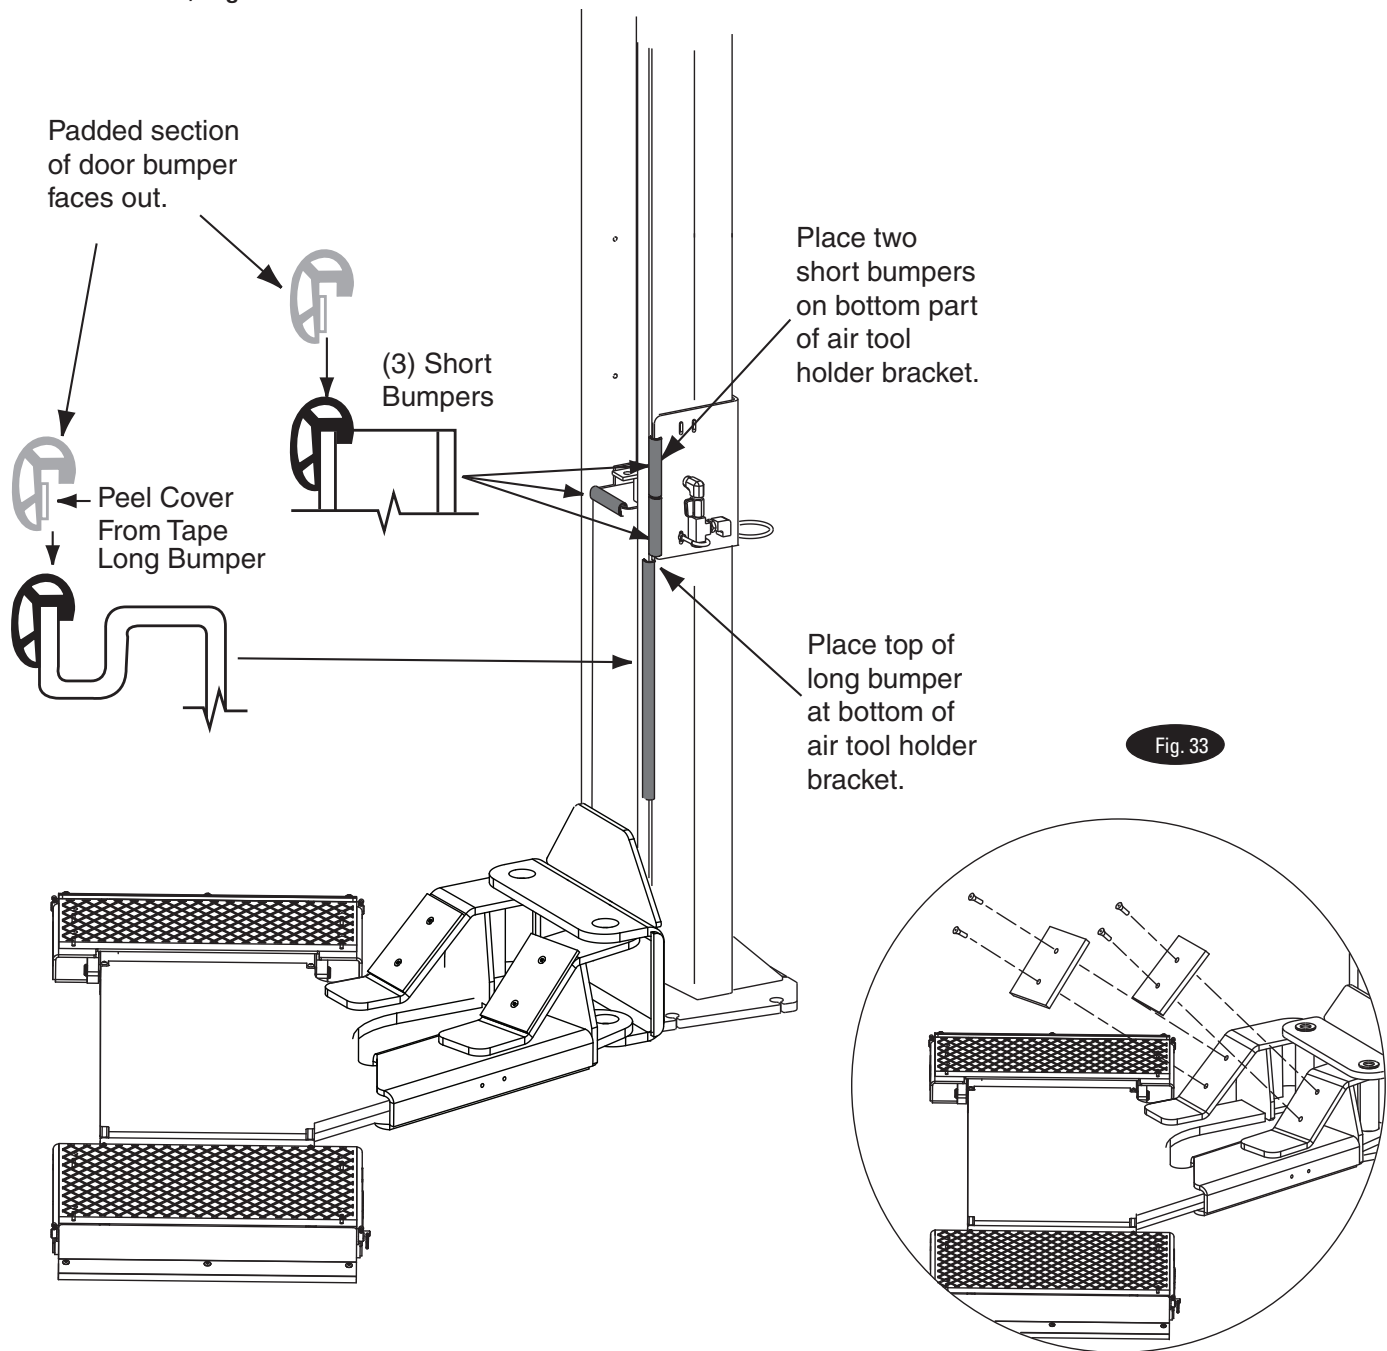

Fig. 33
- A) Press long bumper on column edge, Fig. 33.
- C) Press 2 short bumpers on bottom part of air tool holder bracket, Fig. 33.